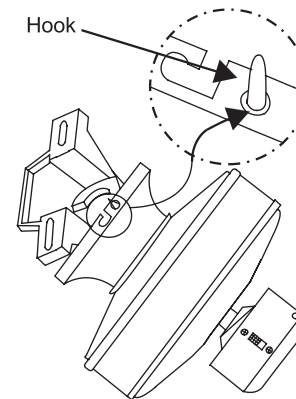

Figure 9
9. Hang the fan on the hook of the hanger bracket. Be certain that the canopy is fully locked into hook as shown in Fig. 9. This will allow you to make the electrical connections.